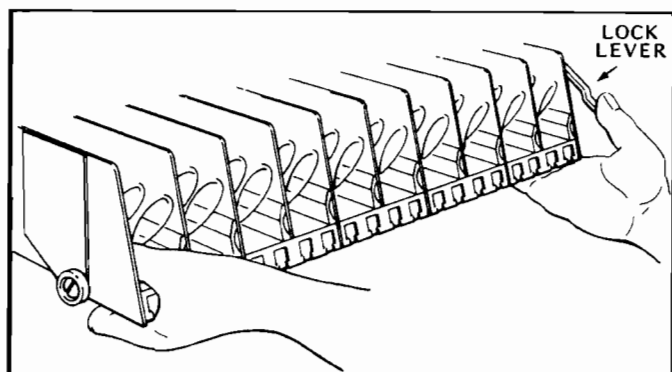

Figure 1. MOVING SHELF TO LOADING POSITION.
4. **LOADING SNACK SHELVES:** Open door to full open position, push down on white plastic lock lever (Figure 1) on right side panel by shelf to unlock shelf, holding lever down. Grasp the shelf slightly and pull forward until shelf reaches its stop. The shelves tilt down (do not drop) to make loading easier. **Only one product shelf should be in the loading position at a time.** When returning a shelf, be sure the shelf is in its full home or vend position. Begin loading with the top shelf. Move it to the loading position. The height spacing for items is greatest in this shelf and the tallest bagged items should be placed there. Soft items, such as pastry, pies, etc., should be placed in the lowest snack shelf, making the drop distance as short as possible.